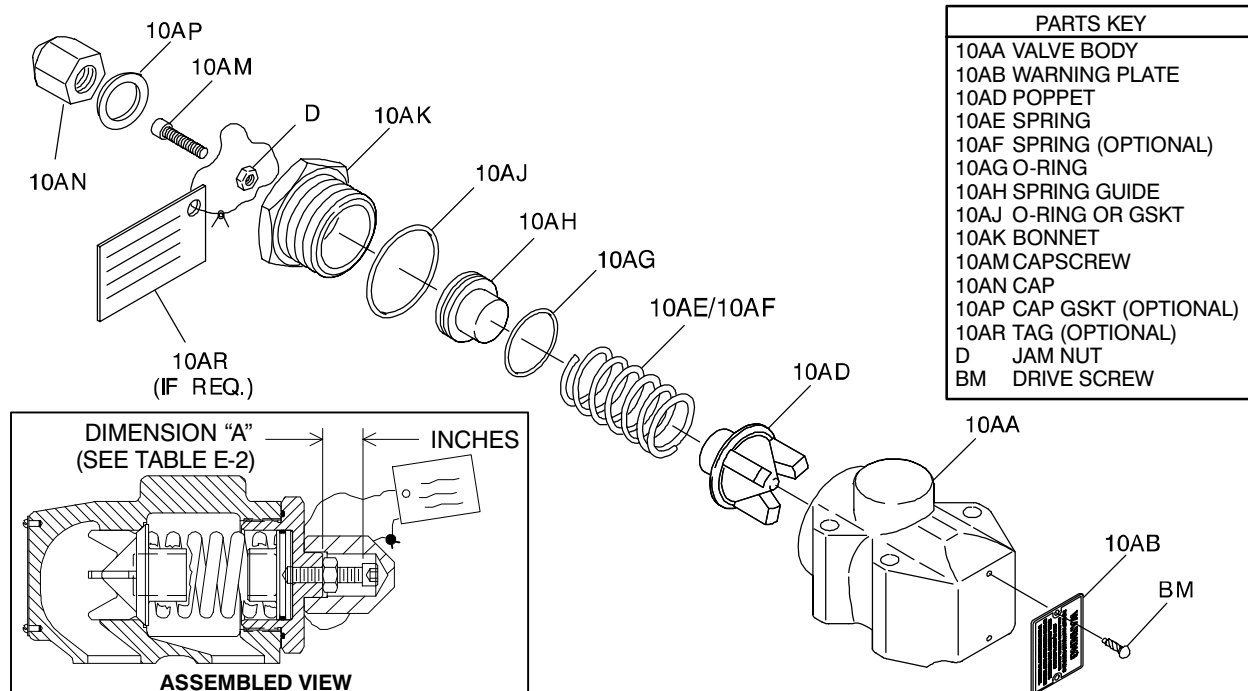

Figure E-7. Pressure Relief Valve Assembly
(Figure E-7)
Install the jam nut (D) on the adjustment capscrew (10AM) and thread the capscrew into the bonnet until the desired height ("A", Figure E-7) is reached. Refer to the separate Parts List accompanying your pump and determine the hydraulic size